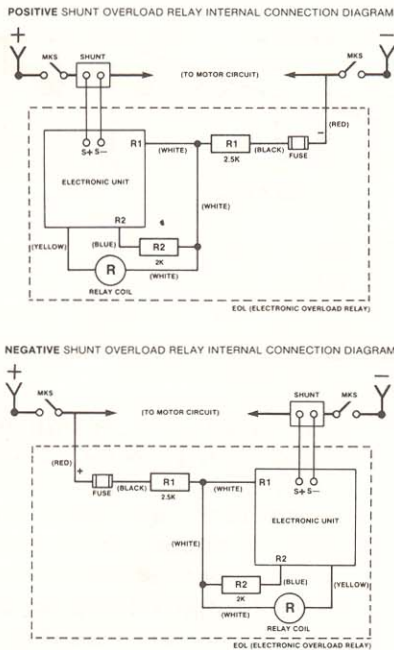

FIG. 6
4. With the control power off, measure the resistance from "+" to "R1" on the 48713-101, 102, 103 assemblies, or from "-" to "R1" on the 48713-201, 202, 203 assemblies. The resistance should read 2500 Ω. If an "open" reading is obtained, check the wiring harness connections on the fuse holder and resistor R1. See Fig. 6. Next check the resistance of resistor R1. Replace if necessary.
read  $2000 \Omega$ . If an "open" reading is obtained, check the wiring harness connections on resistor R2. See Fig. 6. Next check the resistance of R2. Replace if necessary.